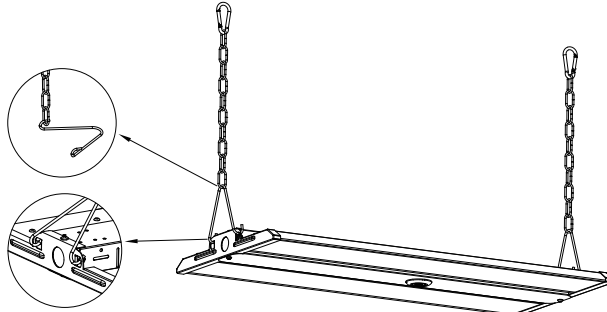

Figure 1
- Step1. Hook up the chain; (Figure 1)
Step2. Connect the chain with fixture; (Figure 1)
Step3. Fix the chain on the rail, adjust the chain length as per need; (Figure 1)